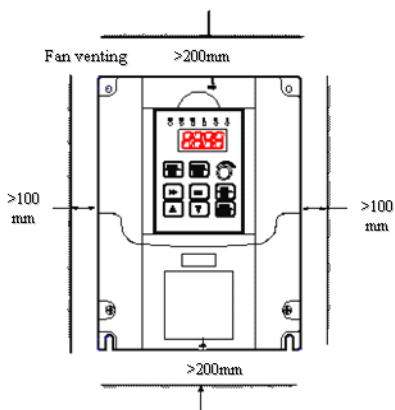

Fig. 2-1 Mounting Space
- The mounting space and distance are shown in Fig. 2-1.